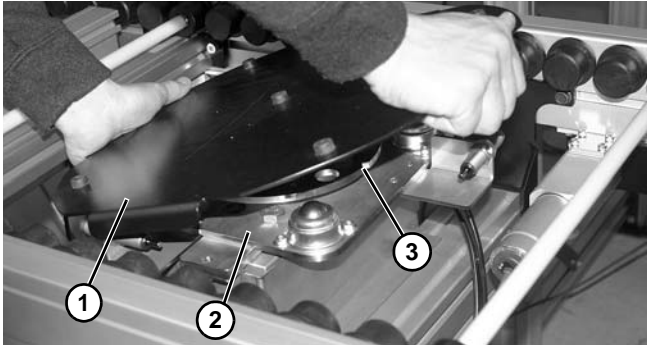
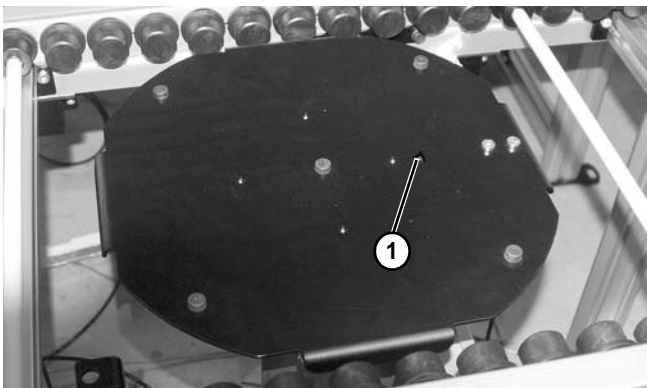

Figure 96
Figure 97
1. Remove rotate plate (**Figure 96, item 1**) on lift and rotate assembly (**Figure 96, item 2**). Make a note for installation that arrow (**Figure 97, item 1**) on plate lines up with indented V (**Figure 96, item 3**) on rotation plate.